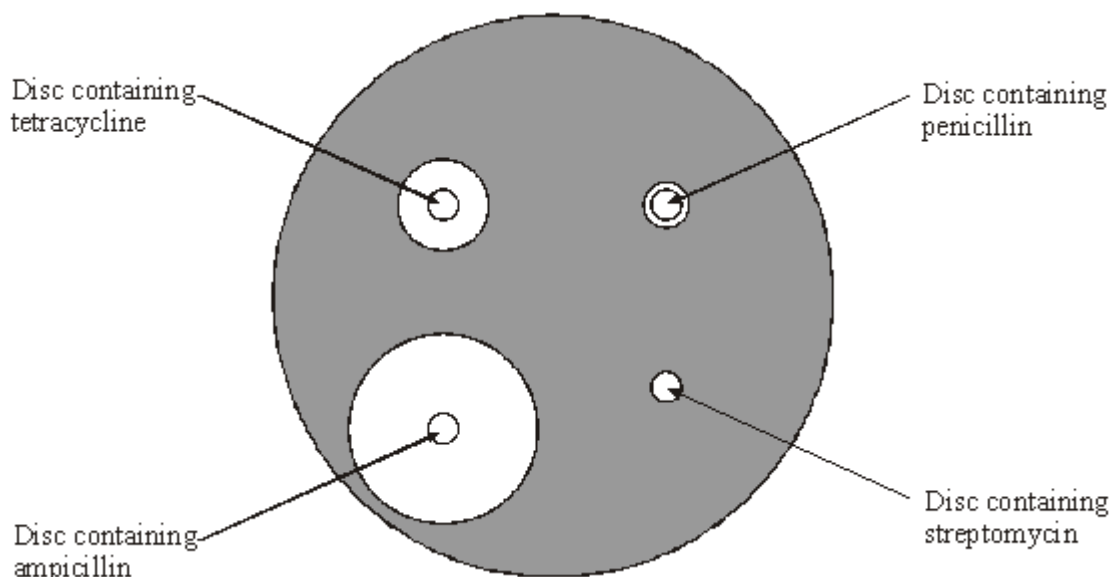

Figure 1
- Q5.** In a hospital laboratory, a sterile Petri dish of nutrient agar was inoculated with bacteria from a patient with a throat infection. Four discs, each of which had been soaked in a different antibiotic, were placed on top of the bacteria. The dish was incubated at 37 °C. **Figure 1** shows the appearance of the dish after incubation.